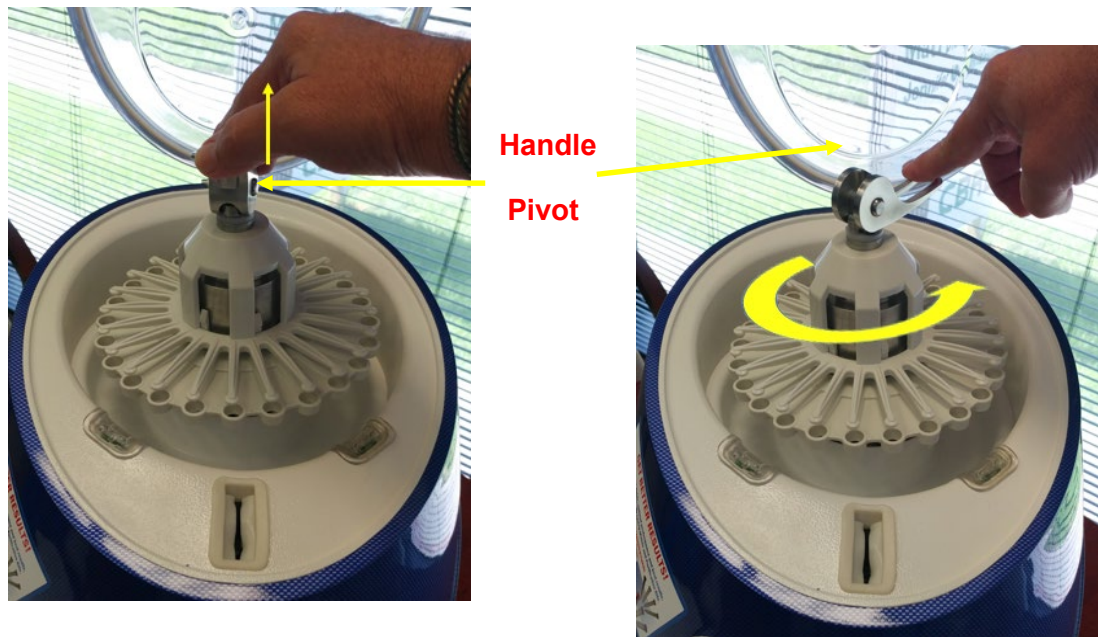

Figure IV-1: QuickPrep-3 and Unlocked Cam
4. Loosen the 'Cam Lock' by lifting handle upward and around the 'Handle Pivot', until the 'Cam Lock' is in the unlocked position (Figure IV-1.1). This requires moderate force and it may be necessary to steady the 'Adaptor' with free hand. (Figure IV-1).